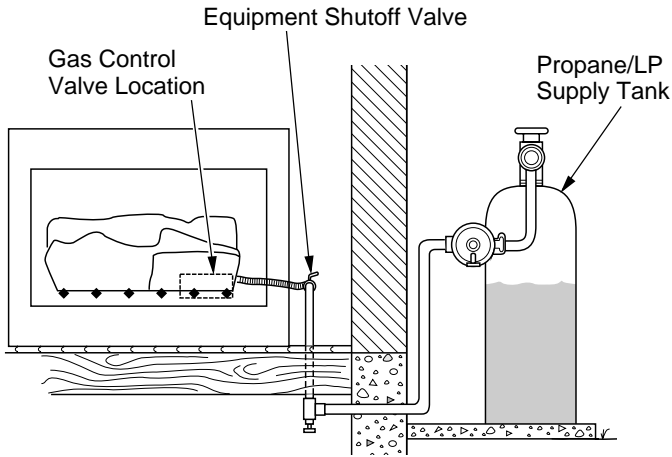

Figure 16 - Checking Gas Joints (Propane/LP only)
3. Check all joints from gas meter to equipment shutoff valve for natural gas or propane/LP supply to equipment shutoff valve for propane/LP (see Figures 16 and 17, page 13). Apply non-corrosive leak detection fluid to all joints. Bubbles forming show a leak.
4. Check all joints from equipment shutoff valve to control valve (see Figures 16 and 17, page 13). Apply noncorrosive leak detection fluid to all joints. Bubbles forming show a leak.